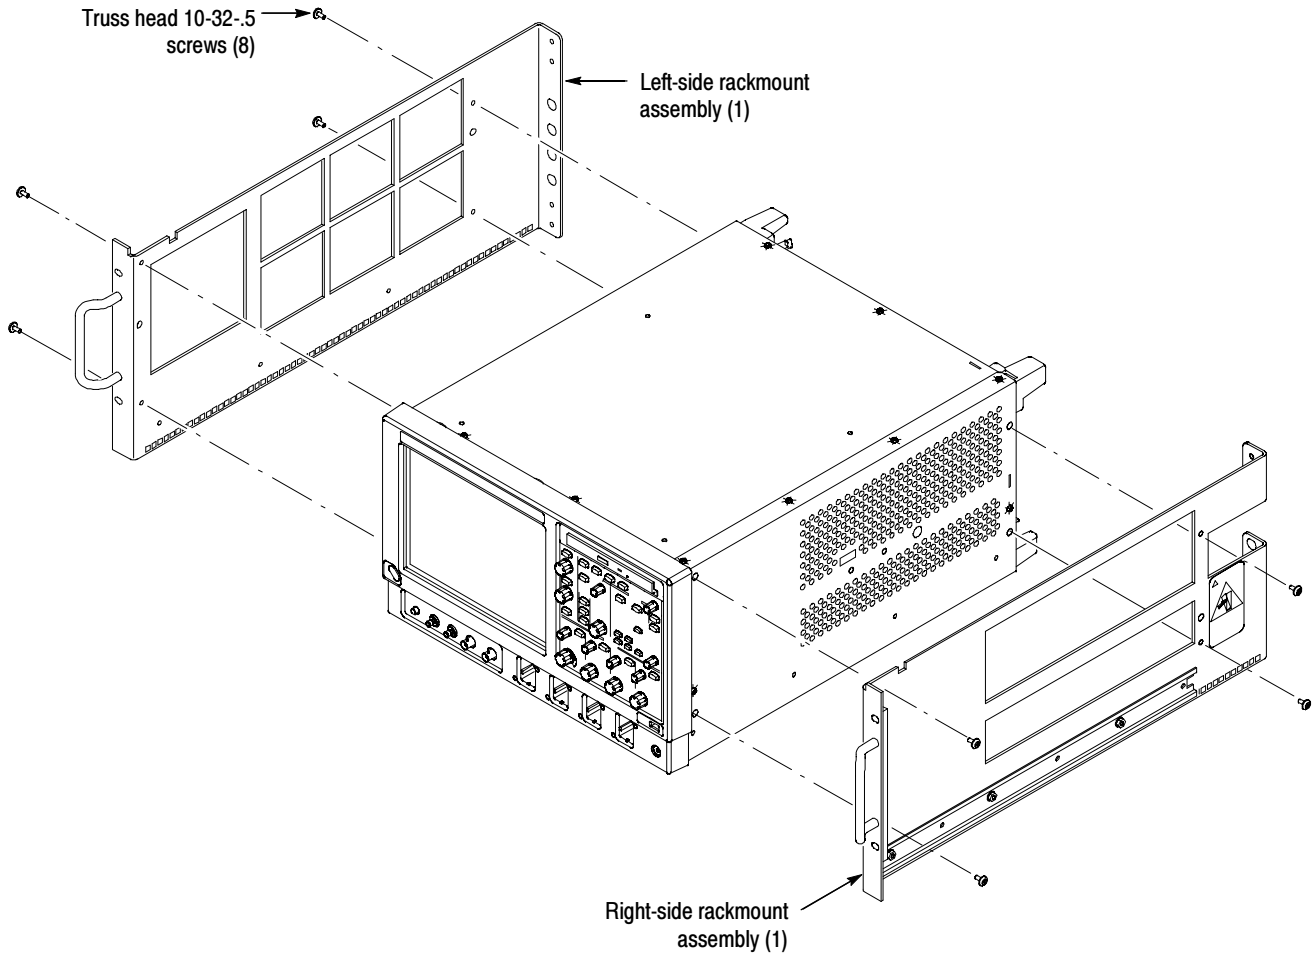

Figure 7: Installation of rackmount assemblies
4. Install the right-side rackmount panel assembly to the right side of the instrument. Secure it by using the four 10-32 Truss head phillips screws, applying 28 inch-lbs of torque. Refer to Figure 7 on page 14.